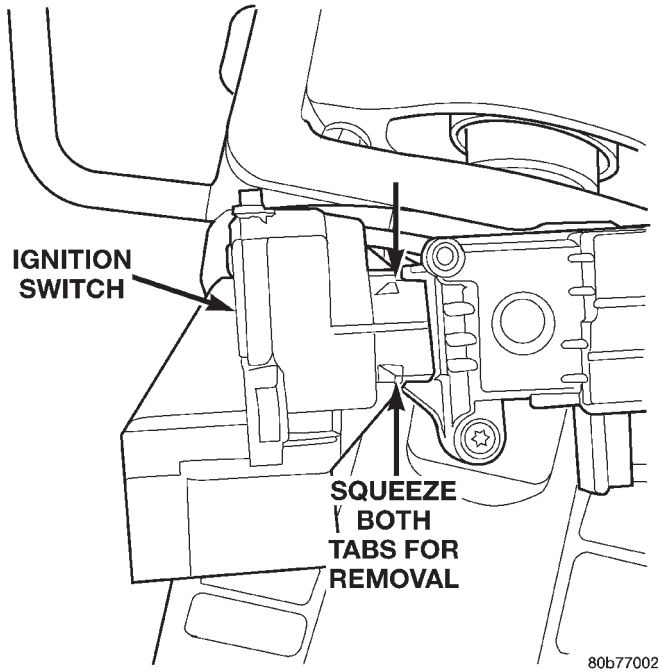

Fig. 42 Ignition Switch Lock Tabs
- (13) Using needle-nose pliers, squeeze both switch lock tabs (Fig. 42) and gently pull switch away from column. **Do not rotate key lock cylinder when ignition switch is being removed or has been removed from steering column.**